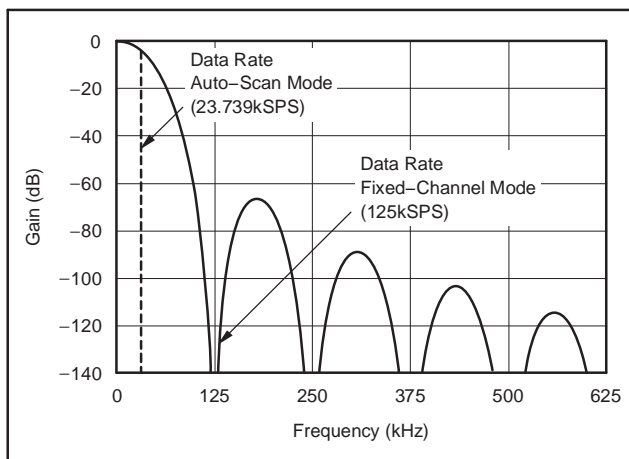
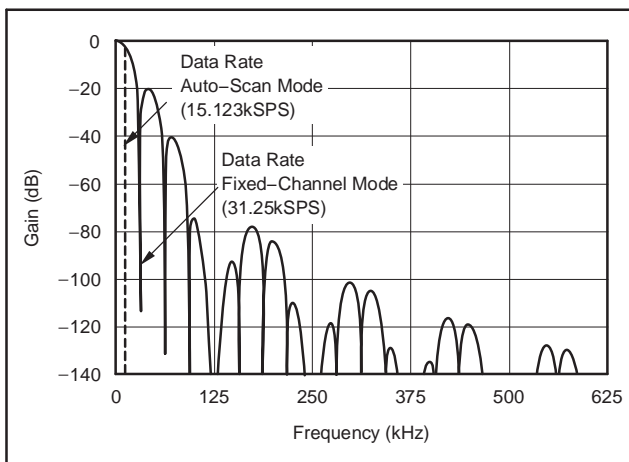

Figure 42. Frequency Response, DRATE[1:0] = 11
Figure 43. Frequency Response, DRATE[1:0] = 10
The low-pass filter has notches (or zeros) at the data output rate and multiples thereof. The  $\text{sinc}^5$  part of the filter produces wide notches at  $f_{CLK}/128$  and multiples thereof. At these frequencies, the filter has zero gain. Figure 42 shows the response with no post averaging. Note that in Auto-Scan mode, the data rate is reduced while retaining the same frequency response as in Fixed-Channel mode.
Figure 43 shows the response with averaging set to 4 (DRATE[1:0] = 10). 4-reading, post-averaging produces three equally-spaced notches between each main notch of the  $\text{sinc}^5$  filter. The frequency response of DRATE[1:0] = 01 and 00 follows a similar pattern, but with 15 and 63 equally-spaced notches between the main  $\text{sinc}^5$  notches, respectively.
(2) Num\_Ave is the number of averages performed by the digital filter second stage.
(3) In Auto-Scan mode, the data rate listed is for a single channel; the effective data rate for multiple channels (on a per-channel basis) is the value shown in Figure 42 and Figure 43 divided by the number of active channels in a scan loop.
Referring to Figure 42 and Figure 43, frequencies present on the analog input above the Nyquist rate (sample rate/2) are first attenuated by the digital filter and then will alias into the passband.